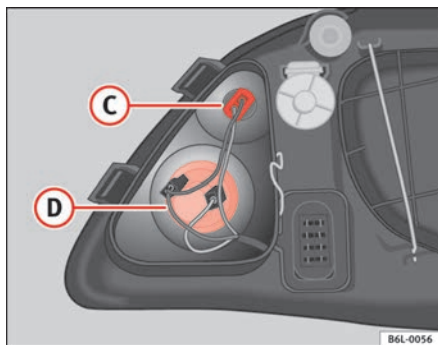

Fig. 155 Side lights
- Pull on the cables to release the lamp holder from the casing ③ ⇒ fig. 155.